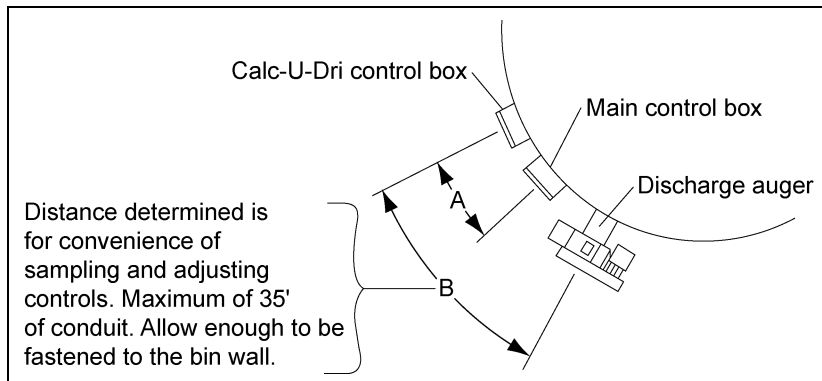

Figure 16D
5. Locate the Calc-U-Dri control box near the unit's main control box, discharge auger, and sampler so that it is easily accessible and convenient height for you to observe and use. Mount the control box to the bin wall, using four (4) 5/16" x 1-1/2" bolts, lock washers, and nuts. (See Figure 16D.)